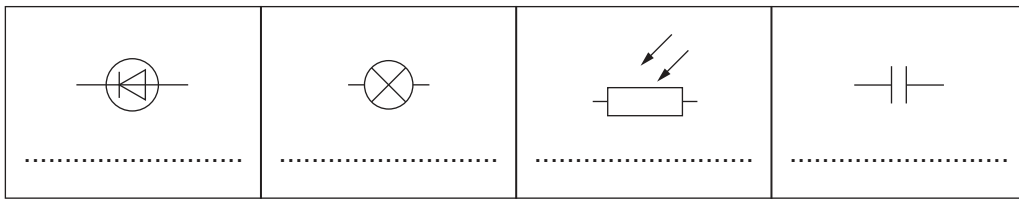

Fig. 8.1
- 8 Complete Fig. 8.1 by naming the electronic symbols.